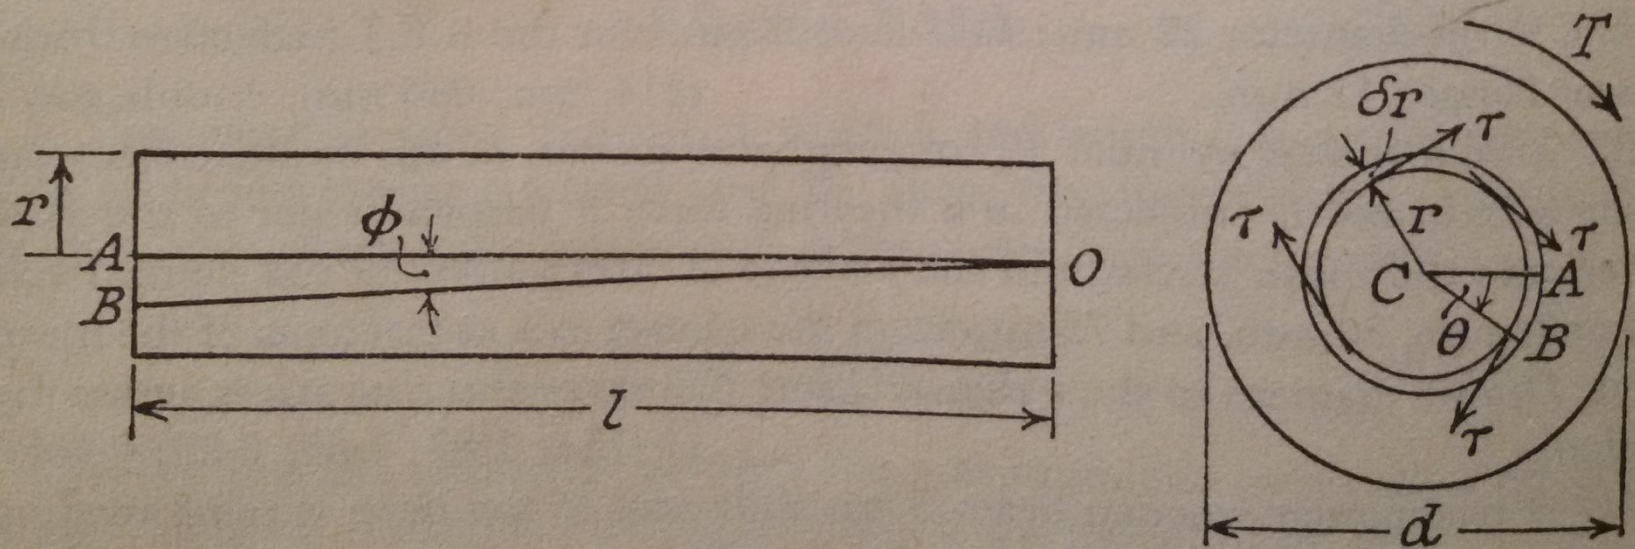

Fig. 8.1
8.1. Circular Shafts. If a shaft is acted upon by a pure torque T about its polar axis, shear stresses will be set up in directions perpendicular to the radius on all transverse sections (Fig. 8.1).